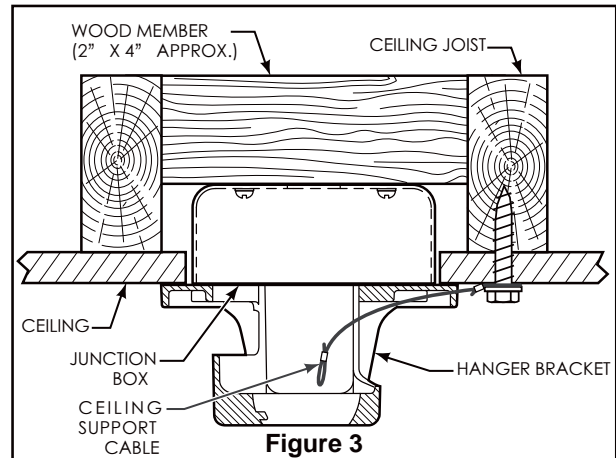

Figure 3
3. Assemble the upper housing to the motor assembly using the previously removed screws. (Figure 3)
- 3. Route the black/white, blue, red, gray and yellow wires and safety cable through the downrod. (Figure 3)
1. Using the $\frac{3}{8}$ " x 2" lag bolt and flat washer, attach safety cable to ceiling joist or wood structural member. The lag bolt will pass through the flat washer, safety cable loop, and into the building structure (Figure 3). You will first drill a $\frac{1}{4}$ " pilot hole into the building structure to prevent splitting or cracking.
NOTE: Ceiling support cable cannot be secured to junction box only, it must be directly secured to ceiling joist or structural member using the $\frac{3}{8}$ " x 2" lag bolt and flat washer. (Figure 3)
2. Slide the receiver into the hanger bracket as shown in Figure 3.